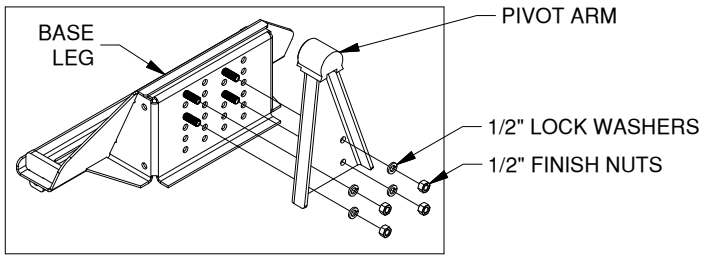

Figure A3: Base Leg and pivot arms.
3. Locate both pivot arms, eight 1/2" split lock washers, and eight 1/2" nuts. Place the flat side of the pivot arm over the cap screws and attach eight lock washers and nuts, see figure A3. Torque each bolt connection to 80ft.lbs.